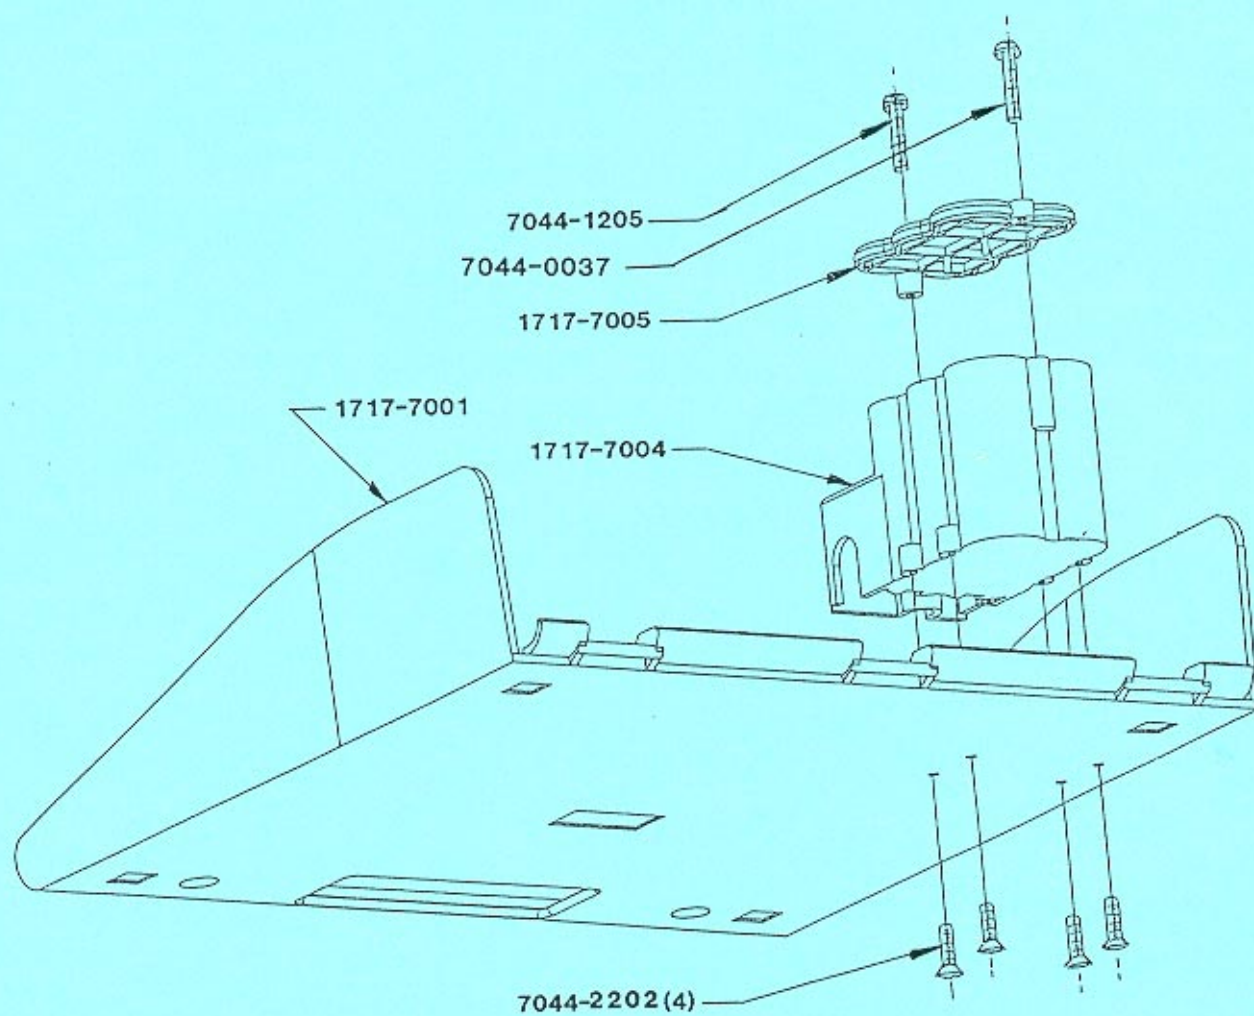

Figure 10-1: BATTERY PACK INSTALLATION
If the GSI 17 battery pack has been purchased separately from the audiometer, it must be installed into the instrument. Note that there are four (4) screws included with your battery pack option. They will be used to mount the pack into the storage cavity of the audiometer. On the bottom of the storage cavity, located close to one side, are four (4) indentations. These are thin sections of the case which must be punctured to provide entry holes for the four screws. (See Figure 10-1).